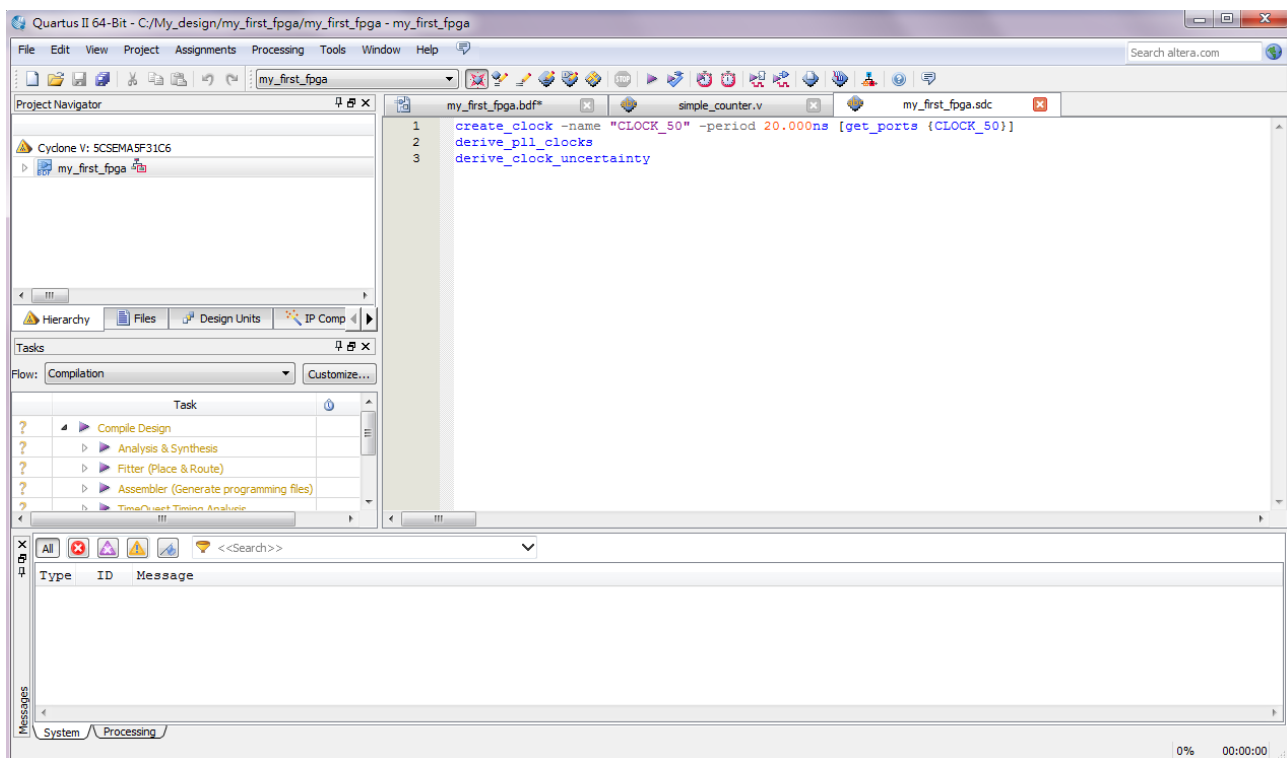

Figure 3-34 Default SDC
4. Save this file as my_first_fpga.sdc (see Figure 3-34).